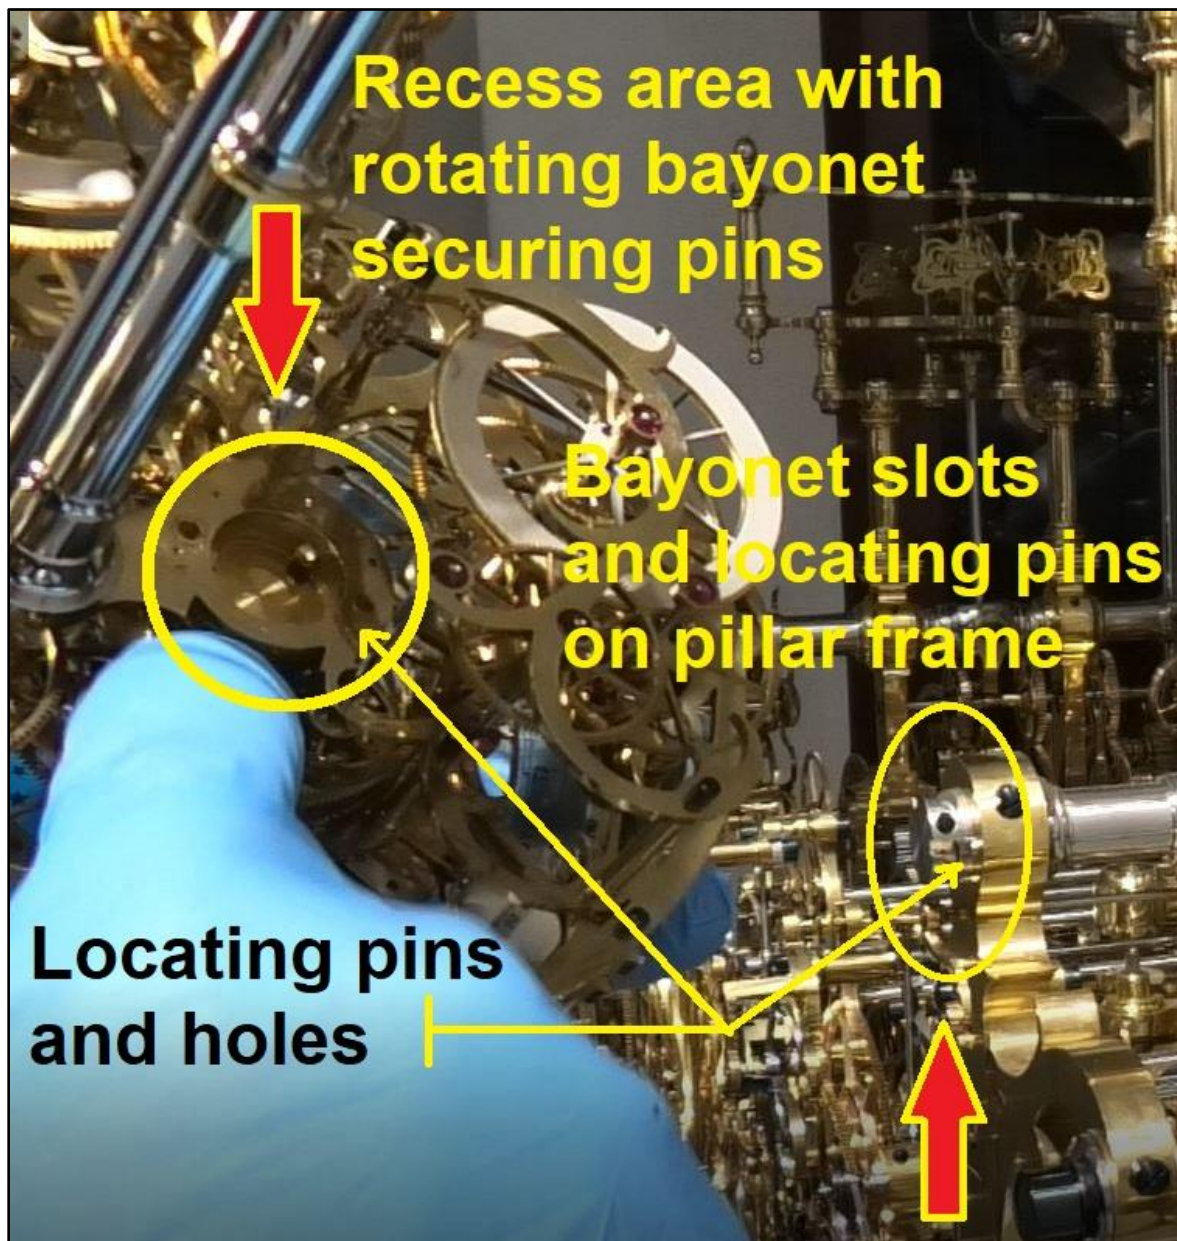

Fig. 1. Depiction of recess area on Sun/Moon; bayonet mount, slots on frame pillar, locating pins and holes.
2. This module has a cylindrical recess in the center of the rear dial readout support structure, upper circled area, Fig. 1. This fits onto a mating bayonet style mount on the top of the right hand pillar, lower circled area. There is a locking lever that actuates a set of pins that rotate about 30° with the lever. They fit into the slots on the pillar mount and the whole mating is made accurate by a pair of locating pins. Before beginning be sure the lever is rotated, counterclockwise until it stops.